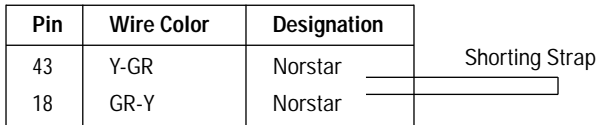

Fig. 12
* See Fig. 12 for Norstar/M1 strapping options.
8. If recorder is connected to a Norstar Key System, connect as per Fig. 12.